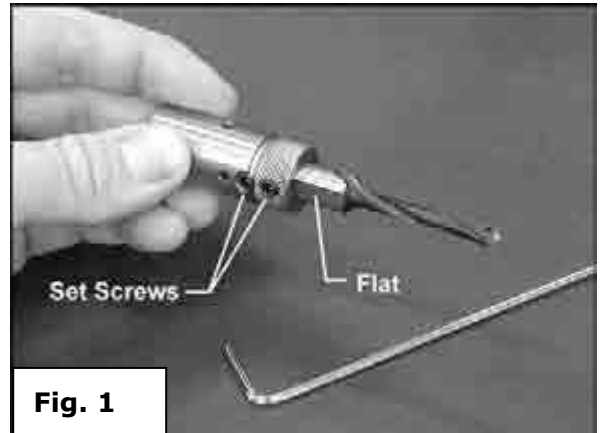

Fig. 1
Boring bits are to be installed in the chucks, which are in turn mounted to the spindles of the machine. The chucks accept boring bits with 10mm shanks. These boring bits will have a screw inside the shank (see Fig. 1). This style of boring bit is available from the local tools or woodworking stores.
- Make sure that the two screws (Fig. 1) are sufficiently screwed deep into the chuck.
2. Tighten both set screws on the chuck with a 2,5mm hex wrench, shown in Fig. 1.